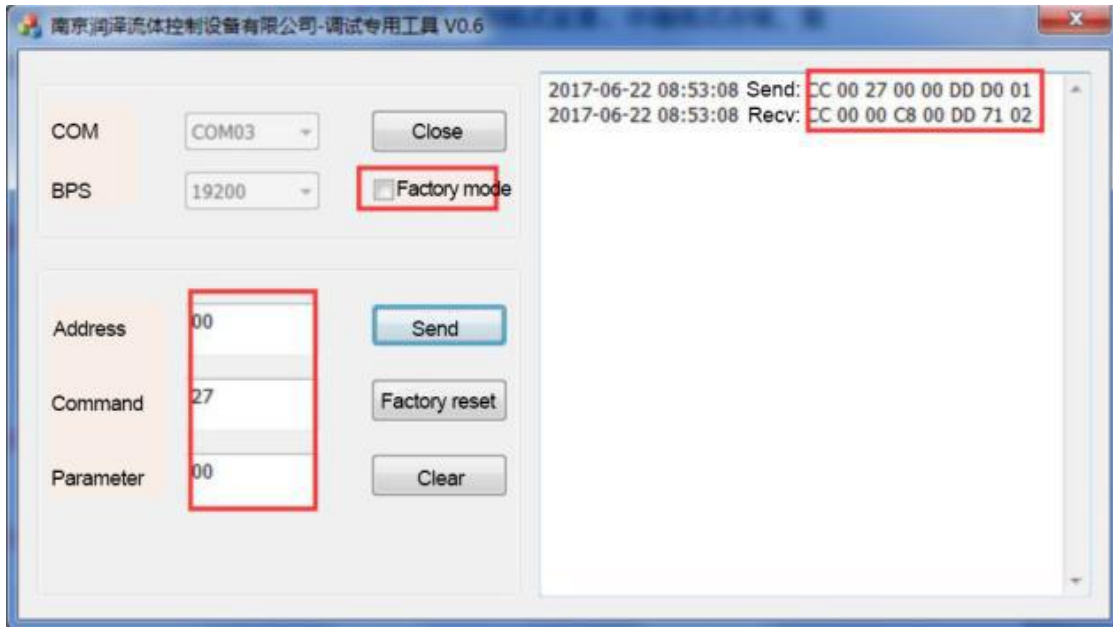

Figure 2
3. Cancel the chosen "Factory command" (as Figure 2)